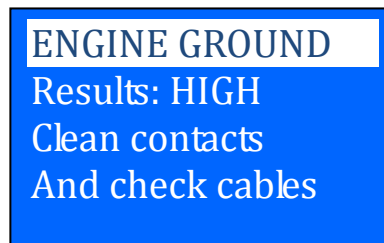

Figure 39
11. If the measured resistance reading has gone beyond the limits, then it will display the screen as follows (Fig. 39).